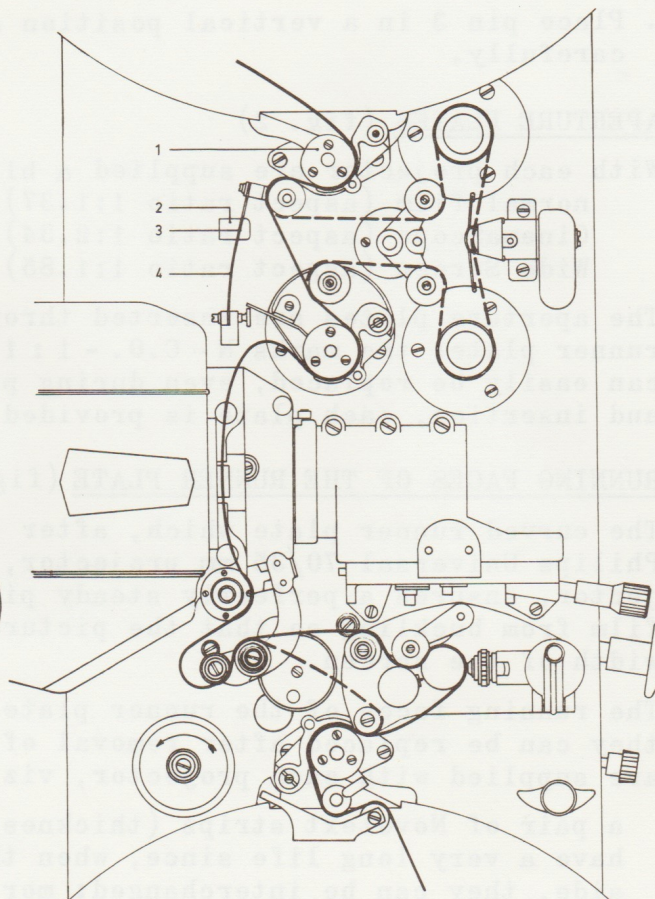

Fig. 4
- films with magnetic tracks: as indicated by dotted line in fig. 4;
- films with optical track: as indicated by plain line in fig. 4.